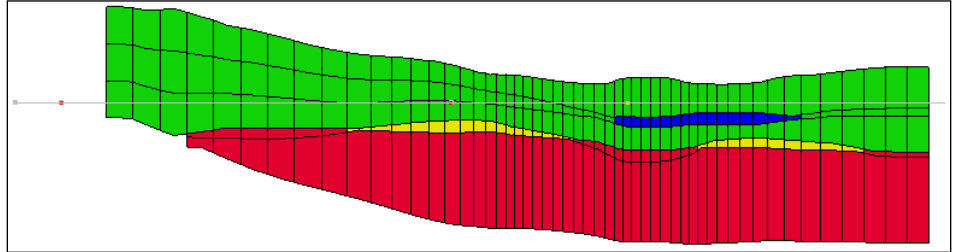
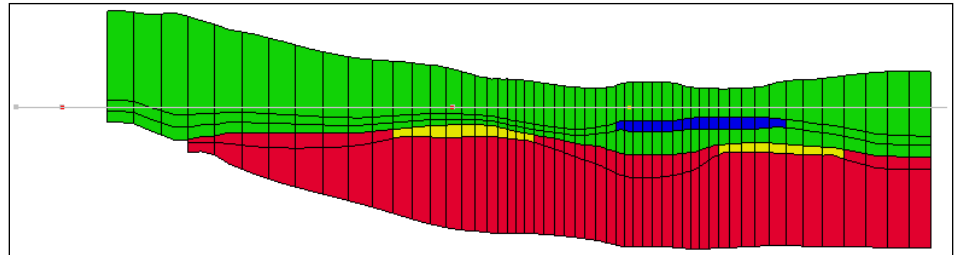

Figure 13: Row 30 of grid after Solids → MODFLOW using boundary matching
Figure 14: Row 30 of the model grid using target minimum thickness and top cell bias
6. In the Mini Grid Toolbar, use the arrow buttons , to view row 30 (Figure 13).
The purpose of boundary matching is to ensure that each upper and lower boundary, defined by the solid model, is precisely matched by a layer boundary in the MODFLOW grid. As a result of this approach, thin cells often occur where solids pinchout. Notice the thin cells on the edges of the clay (yellow) and silty-clay (blue) solids in Figure 13. If wanting to limit the effect of the thin cells in the model grid, set a minimum target thickness for each of the solids.
The grid should now look similar to Figure 14. Notice how the top row and the thin cells in the yellow and blue areas are now thicker compared to Figure 13.